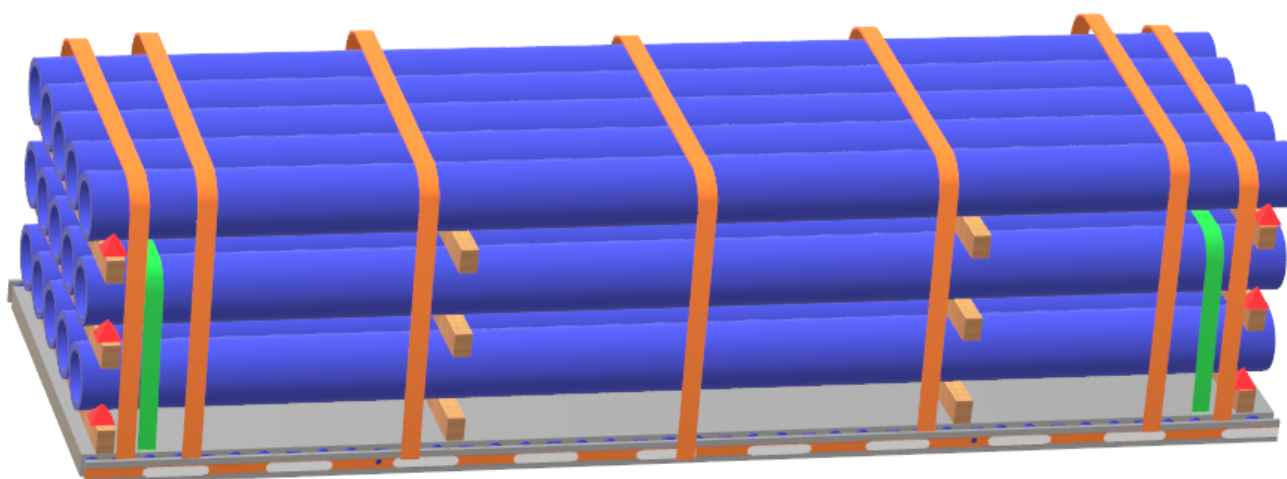

Figure 1:
4. If a load is 3 tiers high or more, belly straps must be used to secure the second layer (green straps on figure 1.)
- When hauling pipe remember that it must be blocked to prevent rolling during transit. This is generally done with the use of wooden or plastic chocks (see the red chocks in figure 1). A driver may have to provide his own chocks at certain locations. If you don't have them, be sure to ask.
1. Place a 4×4 timber under the front of the front bundle when loading. (red in figure 1)
2. Place a 4×4 timber under the rear of the rear bundle. (red in figure 1)
Figure 1: Bundles of lumber secured with two straps over each stack of bundles. Note the red 4×4 timbers under the front and rear bundles. This elevation prevents finished lumber from sliding forward during transit and helps prevent shifting forward during emergency braking. X-strap to prevent motion are shown in blue.